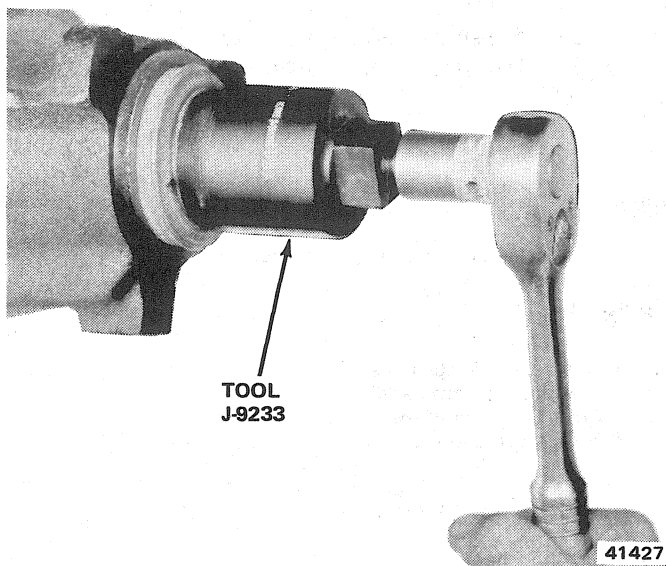

Fig. 2F-27 Pinion Seal Removal
(9) Inspect seal surface of yoke. If surface is damaged or grooved, replace yoke.
(10) Remove pinion seal using Tool J-9233 (fig. 2F-27).
(11) Before installing replacement seal, coat seal lip with rear axle lubricant.
(12) Install seal using Tool J-22661 (fig. 2F-28).
(13) Install yoke on pinion. Note alignment marks.
(14) Install replacement pinion nut. Tighten nut using Tools J-8614-01 and J-22575 to remove pinion bearing end play only. **Do not overtighten nut.**
(15) Check torque required to turn pinion gear. Pinion gear must be turned several revolutions to obtain accurate torque reading. Refer to torque readings recorded during disassembly and add 5 inch-pounds (0.56 N•m) more torque to this amount for correct preload torque.
(16) If preload torque is less than desired amount, which should equal disassembly torque reading plus 5 inch-pounds (0.56 N•m), tighten pinion nut slightly and recheck torque.
(17) Repeat gradual tightening procedure until desired torque is attained. **Do not loosen and retighten nut.**